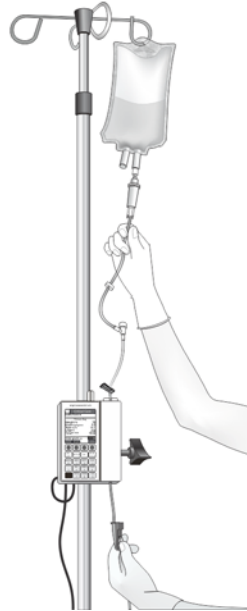

Figure 18. Open Roller Clamp.
13. Open the lower roller clamp and confirm that no drops are flowing within the drip chamber. If drops are visible, remove the Pump from service. See Figure 18.